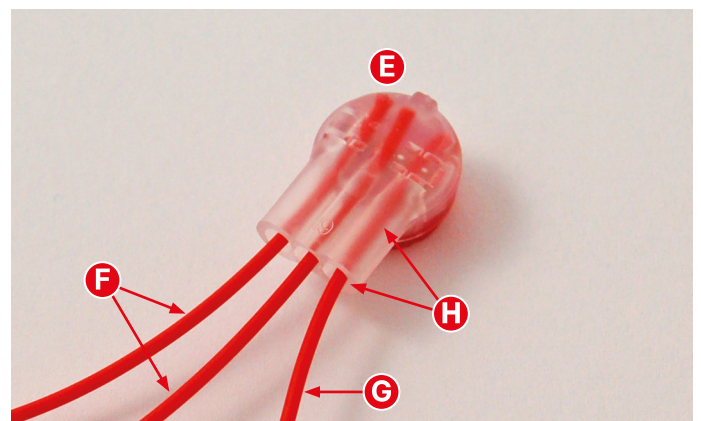

Fig. 13
7. Take one of the **Scotchlok™** 3 way butt connectors with the transparent side facing, **Fig.13, E**.
8. Next take the **red** wires from the speaker and the speaker pcb, **Fig.13, F**, and the **red** wire from the **red/blue** female connector cable, **Fig.13, G**.
9. Feed each **red** wire in turn into one of the connector barrels on the **Scotchlok™** 3 way butt connector, refer to **Fig.13, H**.
10. When feeding the **red** wires into the **Scotchlok™** 3 way butt connector they should be pushed all the way to the end of the connector barrel as far as they will go, this can be seen through the transparent side of the connector, **Fig.13, E**.